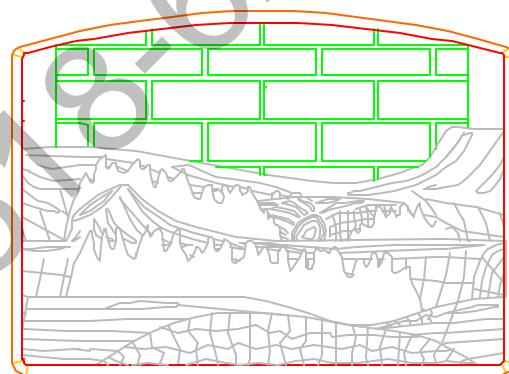

Figure 17
*The air shutter is preset by the manufacturer for optimum operation and should not need adjustment.* There is an adjustable air shutter located on the U-burner tube on the right rear of the unit under the air deflector. The air shutter is used to regulate the air-to-gas combustion mixture, which in turn adjusts the size and color of the flames. (refer to figure 17 to see a typical flame pattern) However, it may need adjustment once the unit has been installed to compensate for variations in supply line pressure, altitude, and other variables.